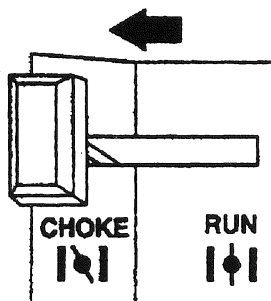

fig. 6
2. Move the choke control to CHOKE position. (fig. 6)